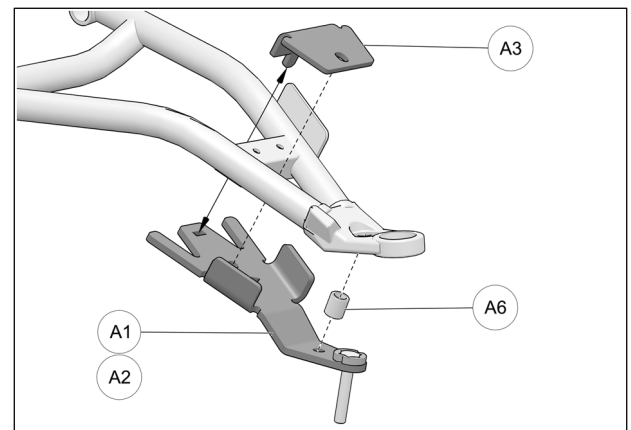

Fig. 15
5. Position bottom part of anchor bracket (**A1-A2**) assembly under front lower suspension arm, as shown in the figure below. Position bracket cover (**A3**) over suspension arm so that the tenon slips in the mortise cut in the bottom part. Insert bushing (**A6**) between bracket and suspension arm, at the location shown on Fig. 15